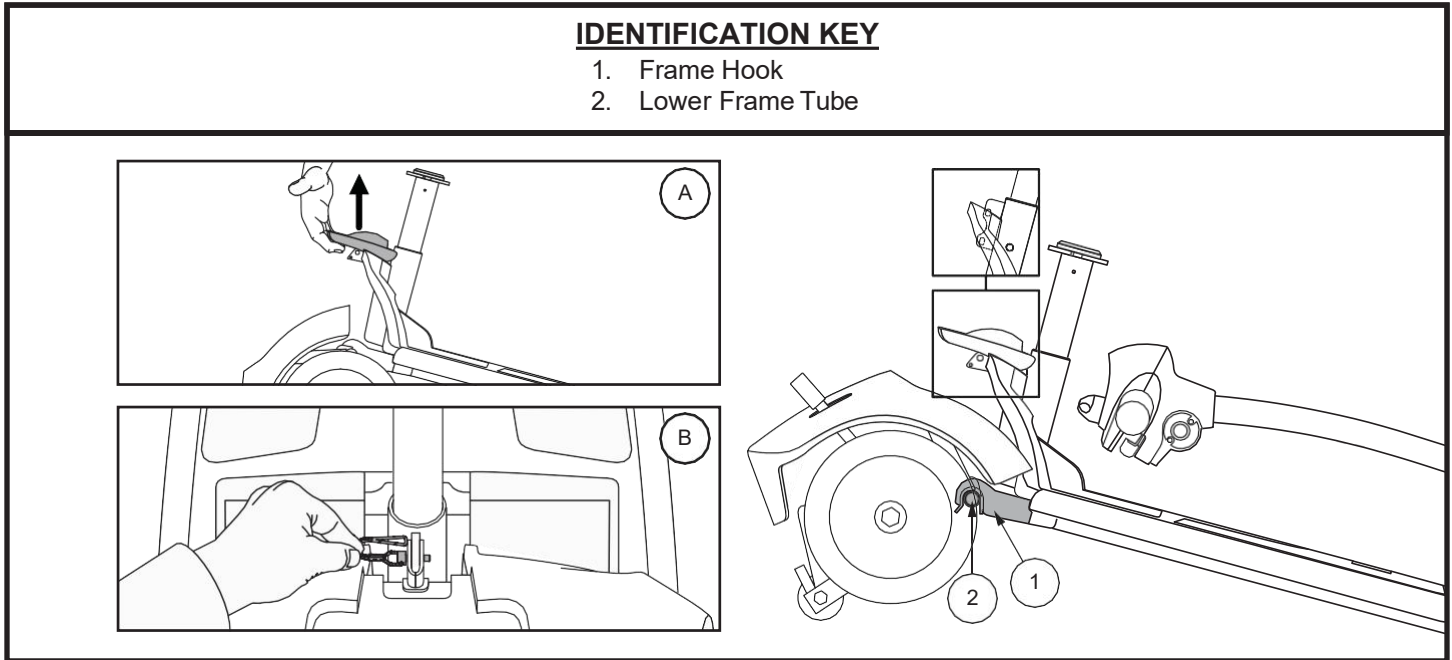

Figure 33. Frame Release Lever (Style A) and Frame Release Lock-up Pin (Style B)
3. Slowly separate the two sections of the Travel Scooter. See figure 33.
**NOTE:** Before attempting assembly, tilt the rear half of the Travel Scooter slightly back on the anti-tip wheels as shown in figure 33.
1. Use the frame release lever to lift the front section as you align the frame hooks of the front section with the lower frame tube of the rear section. See figure 33.